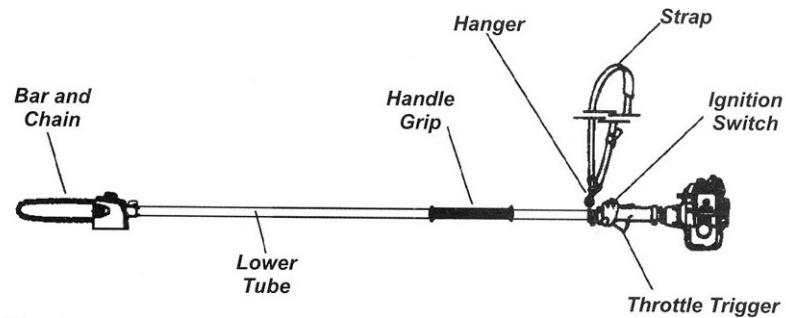

Figure 15
2. Follow “assembling the pole sections” section to assemble the gearcase onto the lower tube assembly. See figure 15.